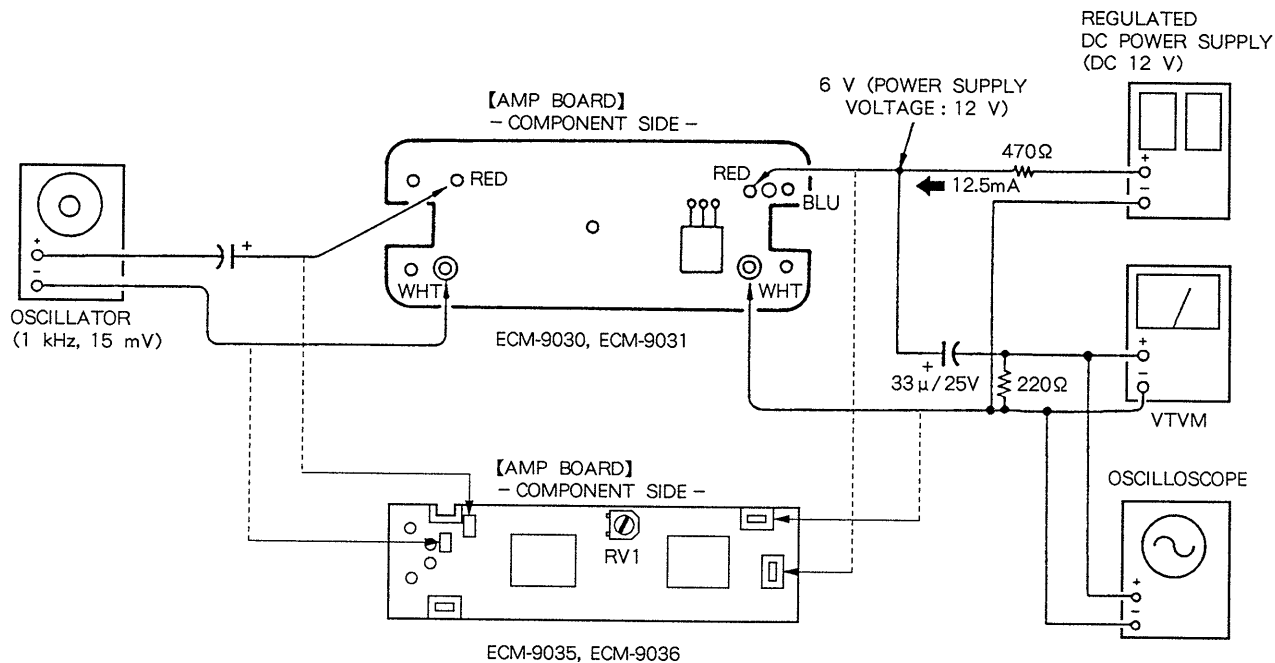

Figure 15. Wiring for Amp Board Mount
B. Amp Board Mount Checkout (See Figure 15.)
- (1) Connect an oscillator, regulated DC power supply, VTVM, and oscilloscope to the amp board mount as shown in Figure 15 and set the power supply voltage to 12 V.
- (2) Amp board mount is not defective if the reading on VTVM is 370 to 600 mV.
C. Operation Check on Increasing or Decreasing Power Supply Voltage (See Figure 15.)